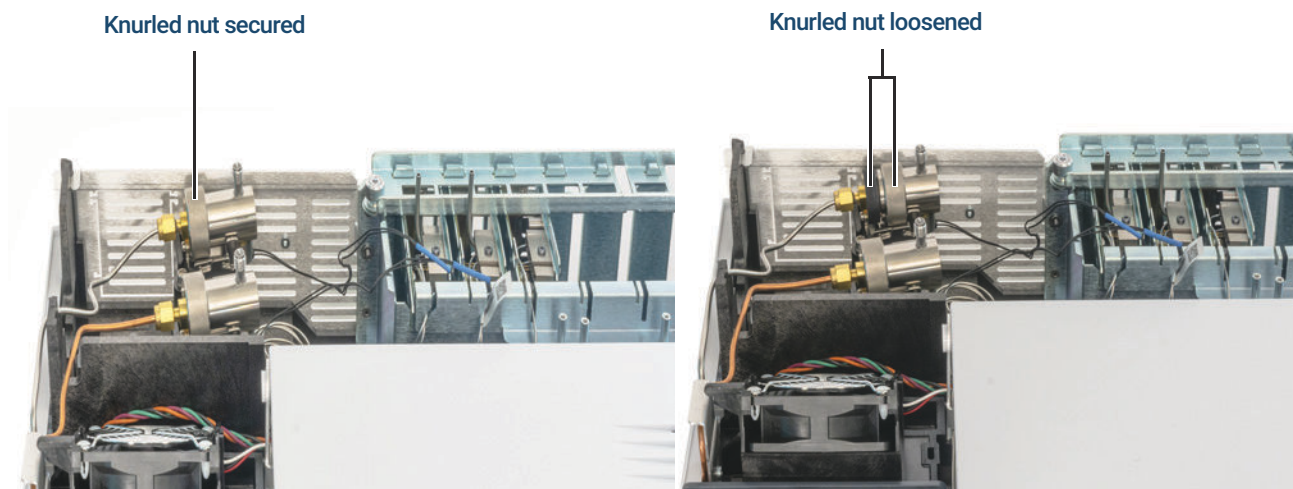

Figure 32. Loosen knurled nut
4. Completely unscrew the knurled nut that secures the split vent trap cartridge in place until it spins freely as shown in Figure 32.